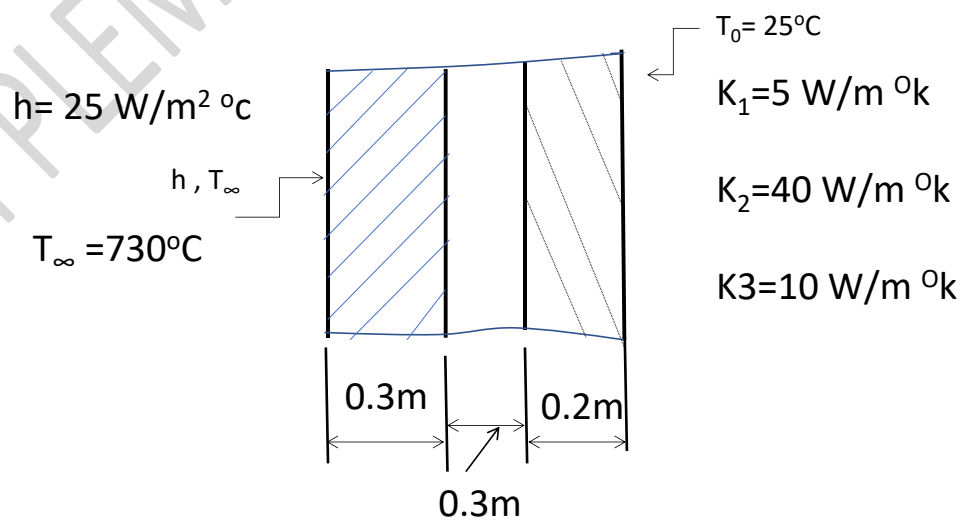

Fig. 7b
- b) For the wall of furnace is shown in Fig. 7b, convection heat transfer takes at the inner side of the wall with the convection heat transfer coefficient of $28 \text{ W/m}^2 \text{ } ^\circ\text{C}$. Determine the temperature distribution in the composite wall. 15